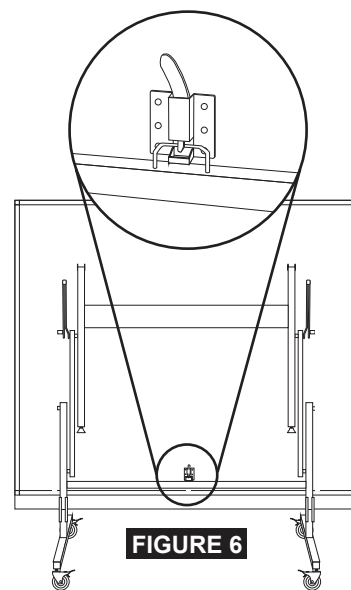

FIGURE 6
3. Secure table into upright position as shown in **FIGURE 6**.